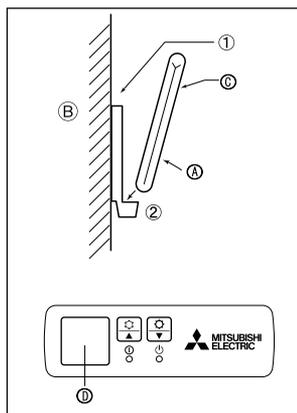
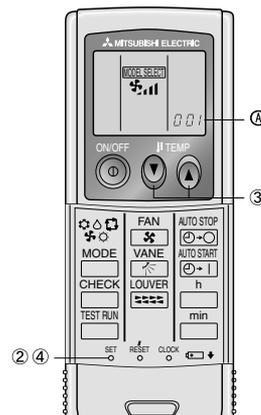

Fig. 6-5
Fig. 6-6
2) Installation method (Fig. 6-5)
① Attach the remote controller holder to the desired location using two tapping screws.
② Place the lower end of the controller into the holder.
3) Setting (Fig. 6-6)
① Insert batteries.
② Press the SET button with something sharp at the end.